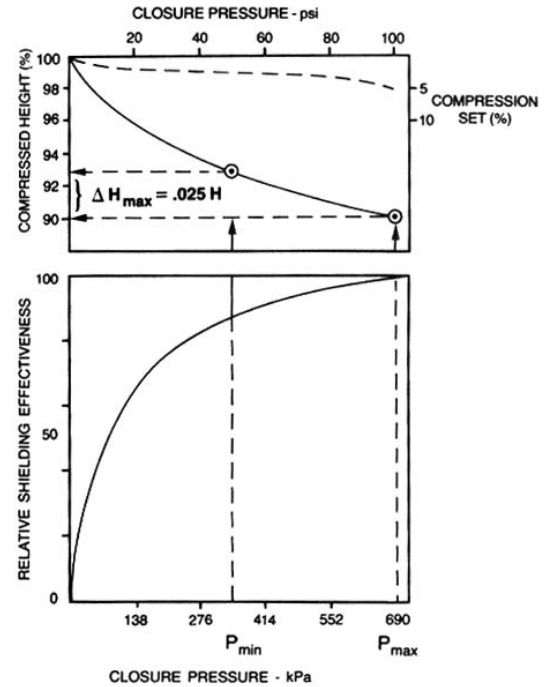
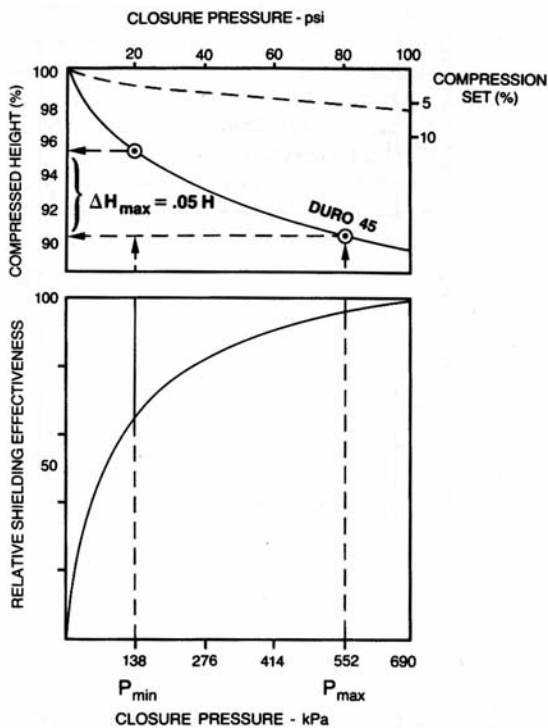

Figure 7-5, Knitted Wire Mesh Gasket
Figure 7-8, Conductive Solid Elastomer (CONSIL)
The data presented is representative of the general characteristics of the materials depicted. Variation in the values presented can be expected as a result of manufacturing tolerances, density of material, variation in hardness (durometer) and variations in cross sections. Figures 7-5 through Figure 7-8 cover knitted wire mesh, oriented wires in solid elastomer, oriented wires in a sponge elastomer and a medium durometer (45) elastomer. Minimum gasket height can be calculated from the data presented for rectangular cross sections.
Example, Figure 7-5 knitted wire mesh gasket shows a minimum recommended closing pressure of 138 kPa (20 psi) and a maximum recommended closing pressure of 414 kPa (60 psi). Below 138 kPa (20 psi), a significant falloff in shielding effectiveness can be expected while above 414 kPa (60 psi) high compression set may result. Using these minimum (P_{min}) and maximum (P_{max}) pressure values and extending them to the compression/deflection curve, minimum and maximum compression values (percentage of original gasket height H) can be determined. In the case of the knitted wire mesh, the minimum recommended deflection is 80% of the original
1. Determine the maximum useful compression as a percentage of the original gasket height. This value should be the maximum compression which will not result in permanent damage to the gasket shielding or sealing properties (refer to Figures 7-5 through 7-8 for typical properties and to specific data sheets where applicable).
2. Determine the minimum useful compression value from Figures 7-5 through 7-8.